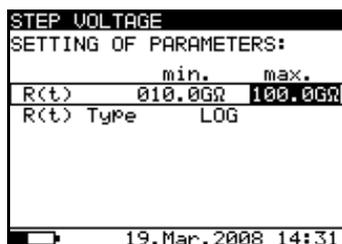

Fig. 26. Set-up menu of the Graph $R(t)$
- Press the **SELECT** key to Set-up the parameters of the **graph R(t)**, see the **Fig. 26**. Press the **ESC** key to return to basic Set-up menu in the **Step Voltage** function.